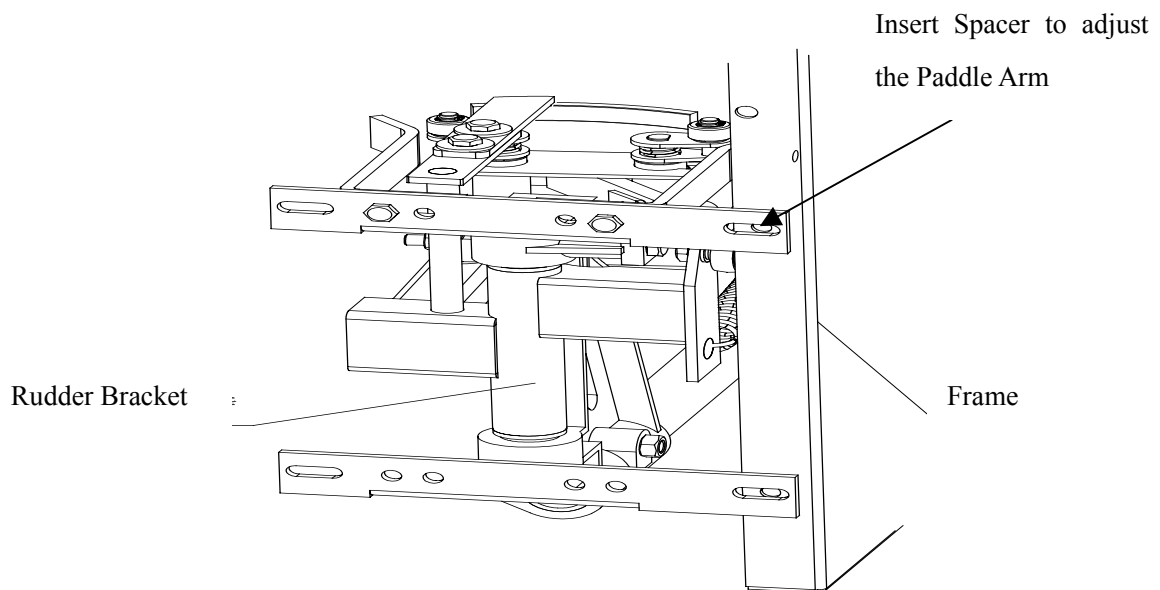

Fig. 5
2. If the rod does not move smoothly, insert some spacer between the Bracket and Frame to adjust the Paddle Arm. (See Fig. 5)